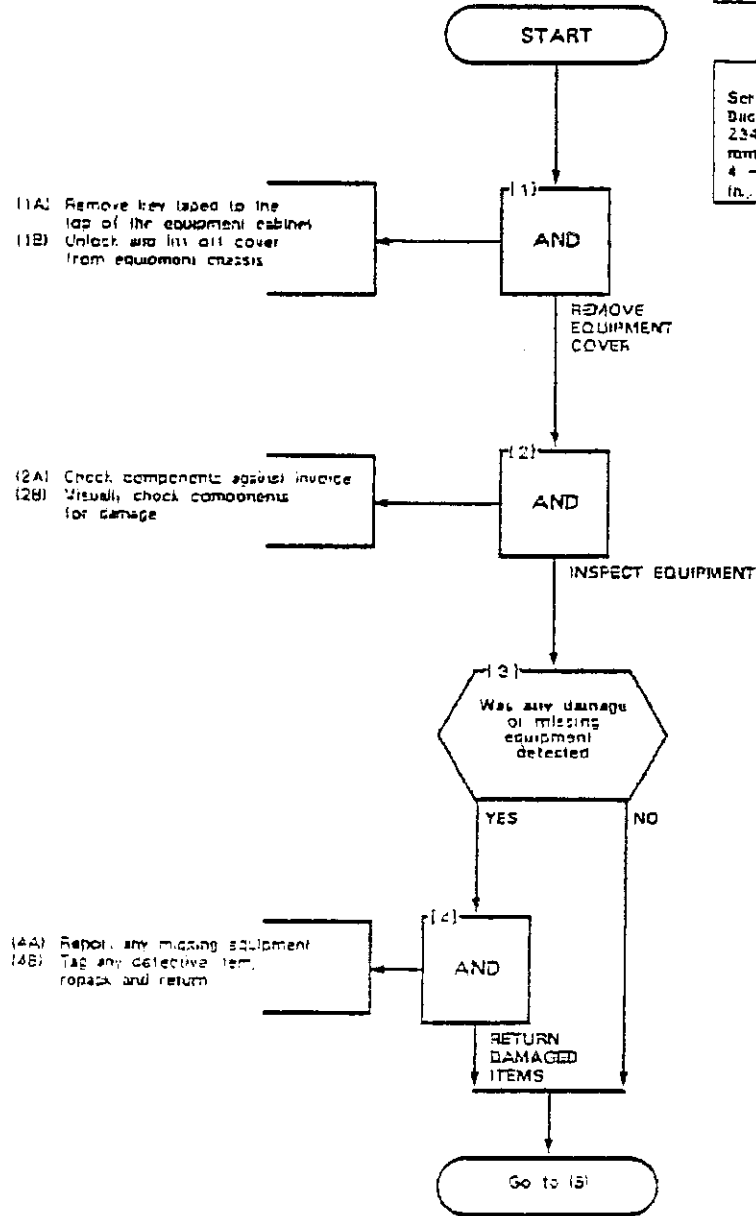

Fig. A1 Typical MAP Page
**A1.03** A typical example of a MAP is shown in Fig. A1, with the two levels detailed.
**A1.10** For the experienced operator to complete a task using a MAP, reference to the sequential short form level one step is usually all that is necessary. Using Fig. A1 as an example, the experienced operator would proceed as follows.
**A1.11** At (1) the operator makes a decision based on the information within the block. If the answer is YES, the operator must proceed to a different MAP. If the answer is NO, the operator is faced with another decision at block (2).
**A1.12** At (2) If the decision is NO, there is no requirement to proceed further and the test is abandoned. This naturally results in a FINISH block. If the decision is YES, the operator proceeds to (3) and (4) in succession, i.e. dials the DID station number and completes the call to the check extension.
**A1.14** Using Fig. A1 as an example, the path followed should be:
- (a) At (1) and (2), make the decisions called for at these steps as before.
- (b) At step (3), dial the DID station number by performing substeps (3A), (3B) and (3C).